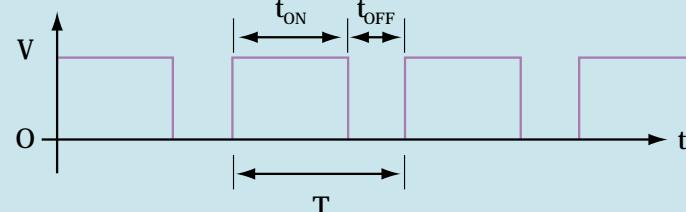

Fig. 1 Pulse width modulated signal
Fig. 1 shows a PWM signal that can be regarded as a square wave with variable duty cycle. Note that the PWM signal has fixed period ($T=t_{ON}+t_{OFF}$) and amplitude (V). The PWM driver varies the proportion of time in which it is in an ON (t_{ON}) and OFF (t_{OFF}) state. The PWM signal period is typically much faster than the dominant time constant of the load, so its net effect is equivalent to applying a dc signal with its average or dc value. The average of the PWM signal will increase when the ON portion of the cycle is increased and vice versa.
We will focus now on the output of the PWM (channel 1). Can you measure the fundamental period (T in Fig. 1) of the PWM signal? Set the scope to a horizontal scale of 20 msec/div and move the signal left and right by turning the horizontal position knob. You should be able to see how the pulse width changes with respect to the binary code.
Using the analog scope, try to zoom in on the channel 1 signal. For this, set the horizontal scale to 2 msec/div, and try to measure at any given cycle the PWM signal fundamental period and also t_{ON} and t_{OFF} (see Fig. 1). Then repeat using the 54600B scope.